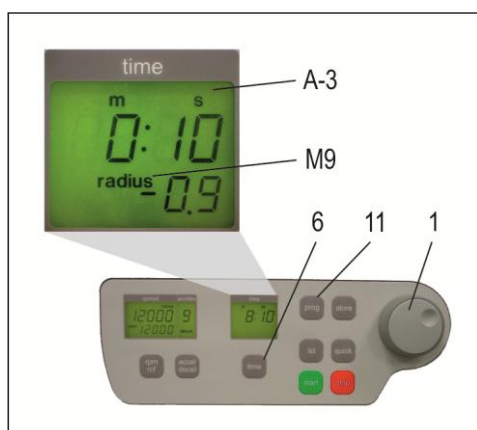

Figure 21
For all number marked text, please refer to Figure 21.
Put the desired rotor into the centrifuge. By pressing the key, "prog" (11), in the display "time" (A-3) appears the word "program", (see Figure 21). With the adjustable knob (1), choose the desired program number.